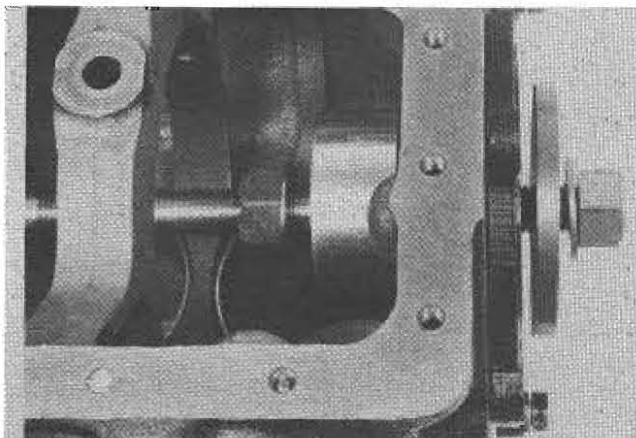

Fig. 3-18 Insertion & Extraction Tool Assembled in Block for Flywheel End Main Bearing Insertion
- To install the flywheel end main bearing in the main bearing housing, assemble the special insertion/extraction tool in the cylinder block as shown in Fig. 3-18.